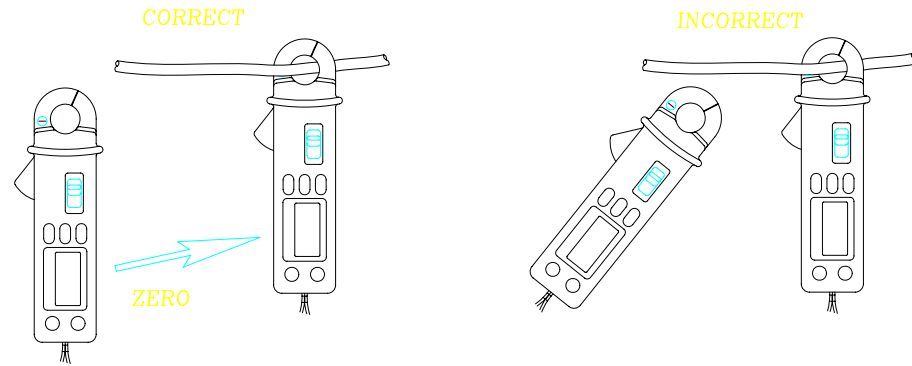

Figure 3
5. Using the zero switch to zero the reading. Due to the high sensitivity of the clamp meter, must zero in the same direction as in measurement to avoid interference by external magnetic field. (see Fig.3)